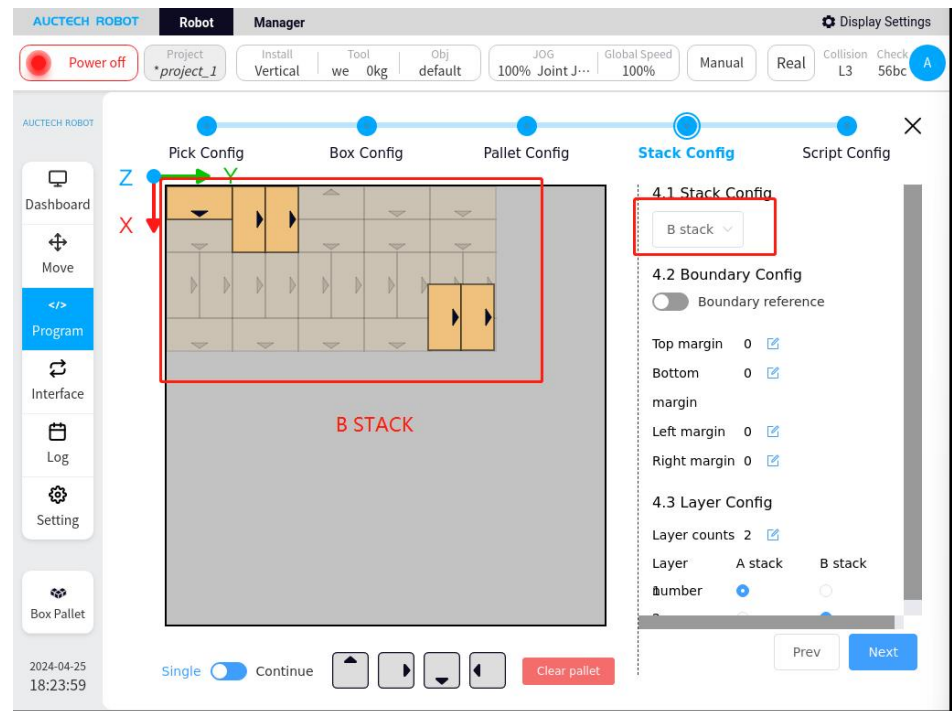

Figure 29
4、 Switch the stack type, as shown in Figure 29.